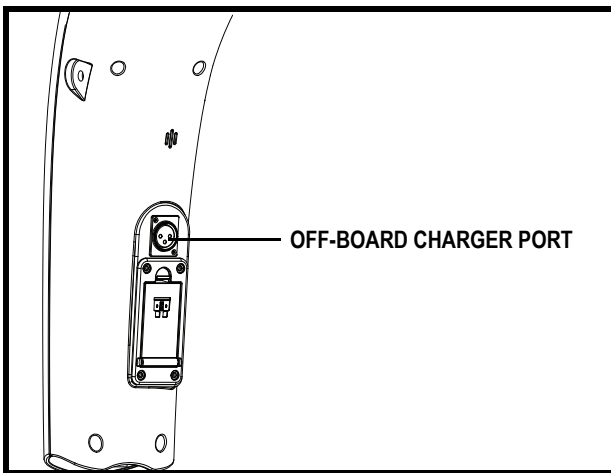

Figure 5. Off-board Charger Port
The off-board charger power cord plugs into this port during battery charging. The off-board charger port is located on the tiller. See figure 5.
4. Plug the 3-pin charger power cord into the off-board charger port. **See figures 5 and 11.**